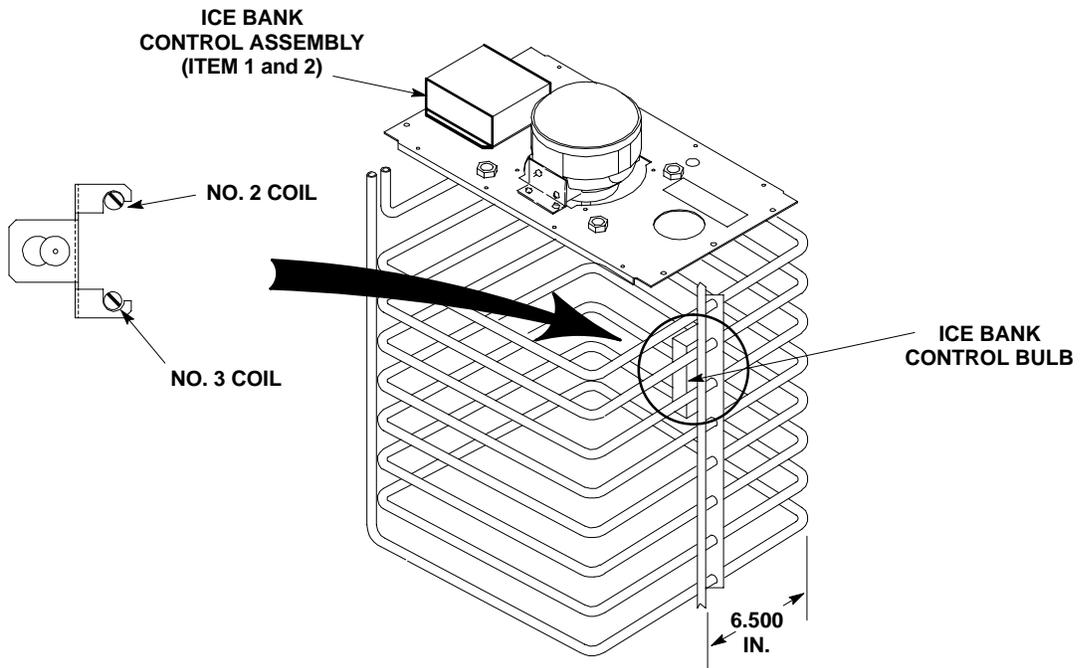

FIGURE 1. ICE BANK CONTROL PROBE LOCATION
1. Install new Ice Bank Control Bulb Holder (item 6) on evaporator coils as shown in Figure 1.